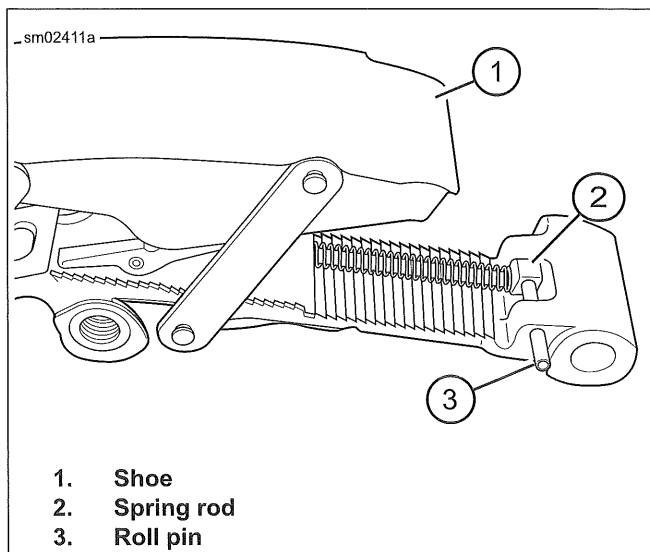

Figure 5-19. Spring Rod Location
- a. See Figure 5-19. Locate end of spring rod (2) on roll pin (3).